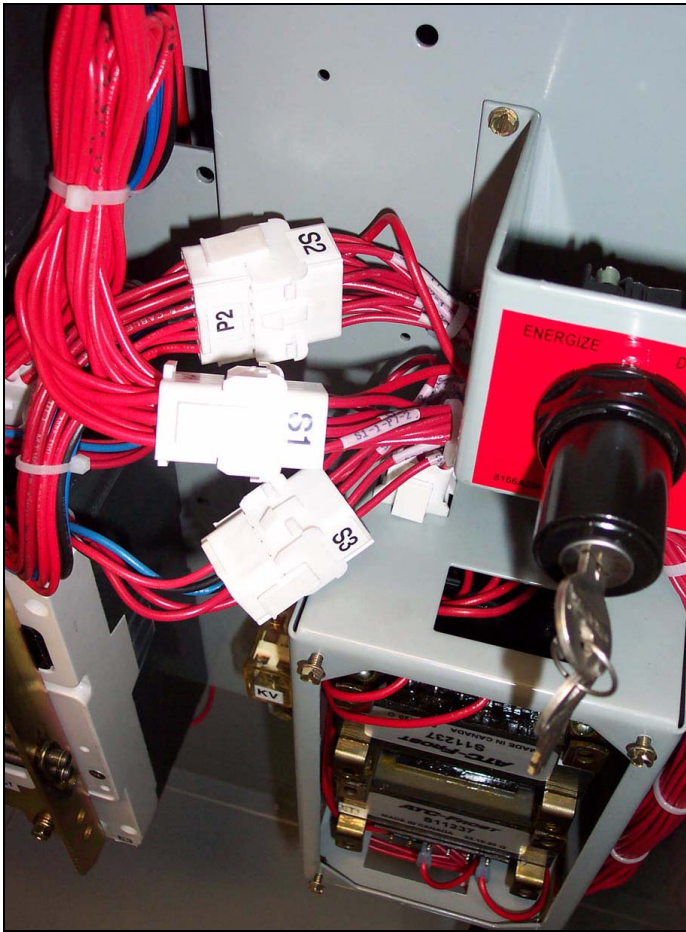

Figure 20.Location of the P1, P2, and P3 Connector Plugs for ATCs with the North American Market Transformer Panel.
Step 1: Disconnect the power panel from the rest of the transfer switch by unplugging the connector plugs P1, P2, and P3 (Figures 20 and 21).